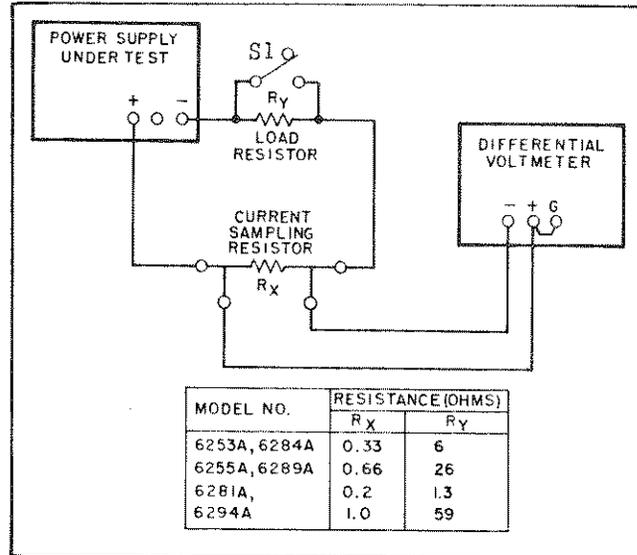

Figure 5-4. Output Current Test Setup
a. Connect test setup as shown in Figure 5-4 leaving switch S1 open.
- Connect test setup shown in Figure 5-4.
- Utilize test setup shown in Figure 5-4 leaving switch S1 open throughout test.